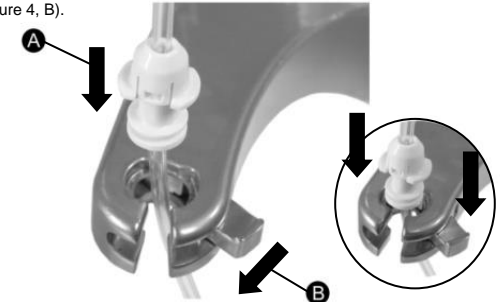

Figure 4. Attach chamber tubing collar to the instrument tubing support arm.
7. Rotate the tubing collar so that its shape aligns with the opening in the support arm. Slide the tubing collar into the support arm (see Figure 4, A) and close the latch (see Figure 4, B).